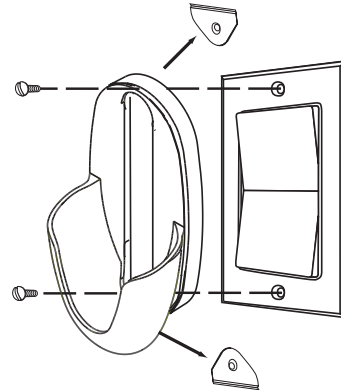

Figure 24 - Installing the remote cradle for a rocker light switch
- Break off the two tabs by pushing outward. See Figure 24.
- Orient the remote cradle as shown in Figure 24. Line up the two outer mounting holes with those on the switch, insert screws, don't over tighten.